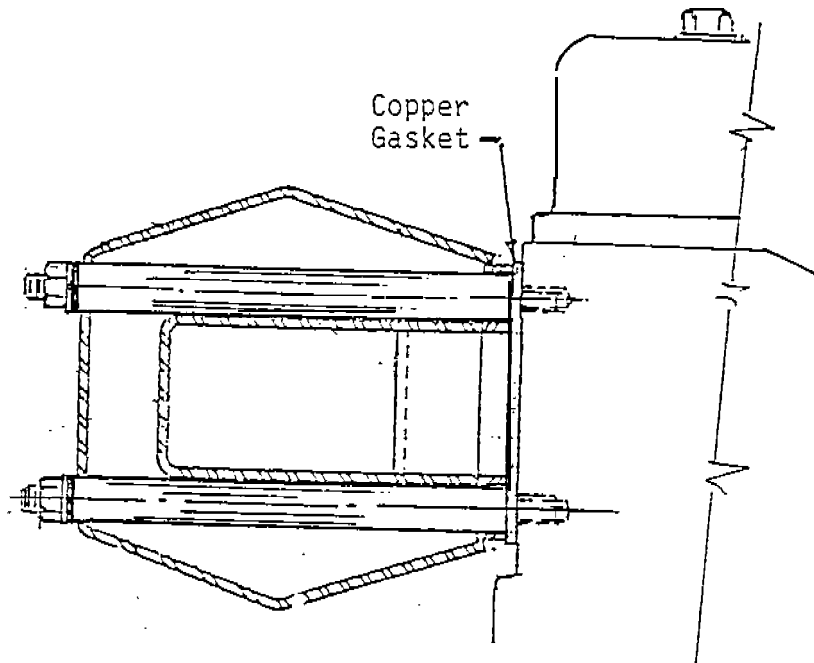

Figure 7. Water-Cooled Exhaust Manifold
- (WEEKLY) 11. () The nuts and lockwashers securing the exhaust manifold to the engine are in place and tight as shown in Figure 7.
- (WEEKLY) 12. () A copper gasket -- in three pieces -- is installed between the exhaust manifold and the engine head, as shown in Figure 7.